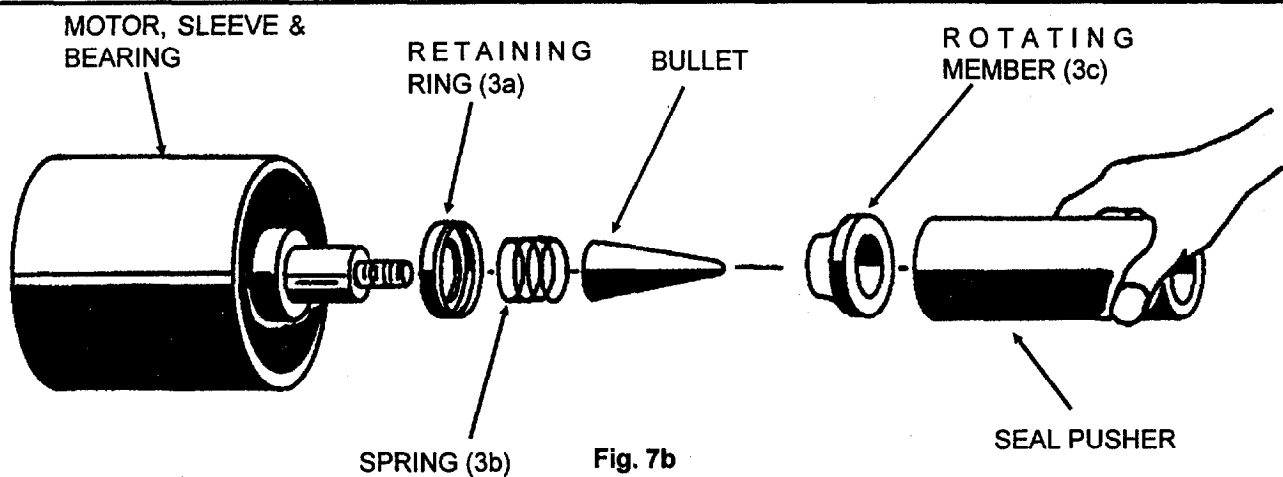

Fig. 7b
DO NOT HAMMER ON THE SEAL PUSHER - IT WILL DAMAGE THE SEAL FACE. Place spring retainer and spring onto motor shaft. Lightly oil shaft (**DO NOT** use grease) and inner surface of bellows of rotating member. With finished end away from motor, slide rotating member over bullet and onto shaft until it engages spring (see Fig. 7b). Carefully assemble shaft to seal plate as per section F-3.3. It is extremely important to keep seal faces clean during assembly. Dirt particles lodged between these faces will cause the seal to leak. When seal plate is assembled to motor, it will properly align and seat the seal (3) and bearing (4). Follow complete reassembly instructions as per section F-3.3.